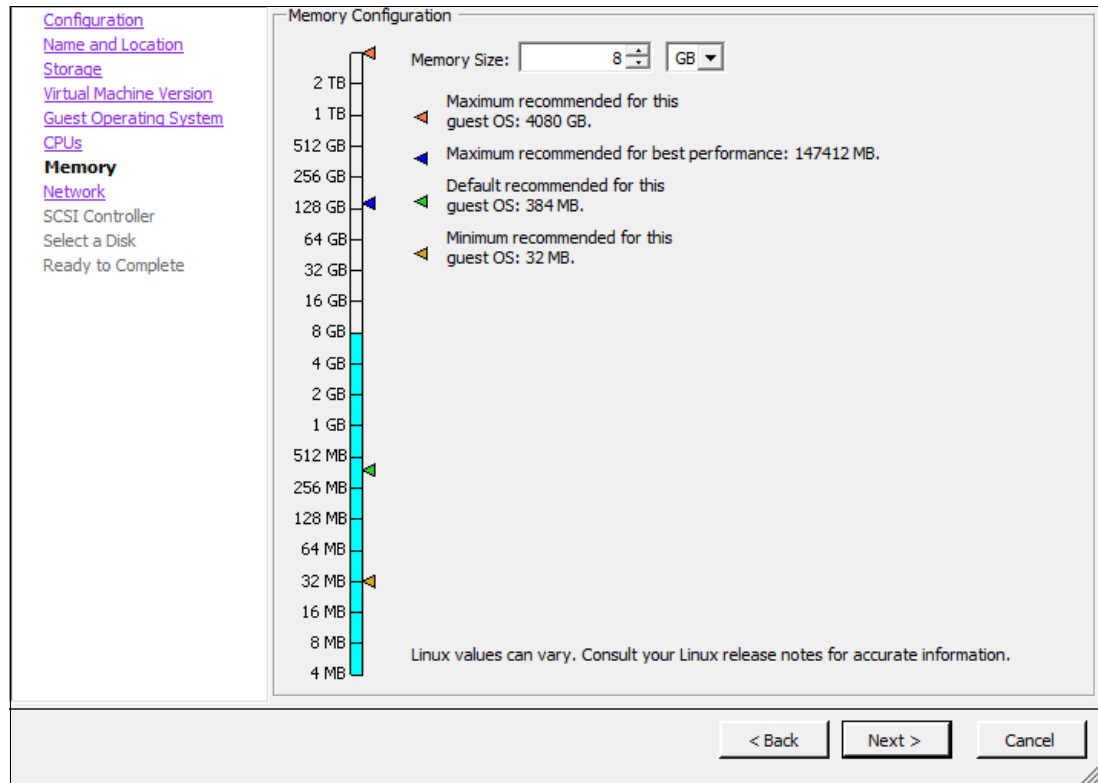

Figure 3-10 Memory panel
8. In the Memory panel (Figure 3-10), specify the amount of memory you need and click **Next**. In this example, the size is set to 8 GB.